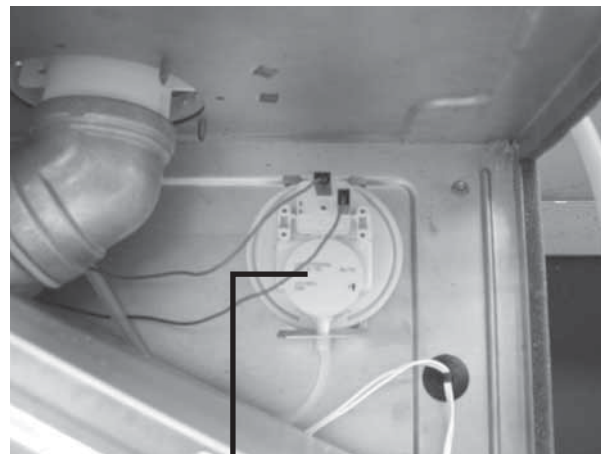

Figure 32
- The air pressure switch is located on the top right-hand side of the fan unit chamber. (*figure 32*)